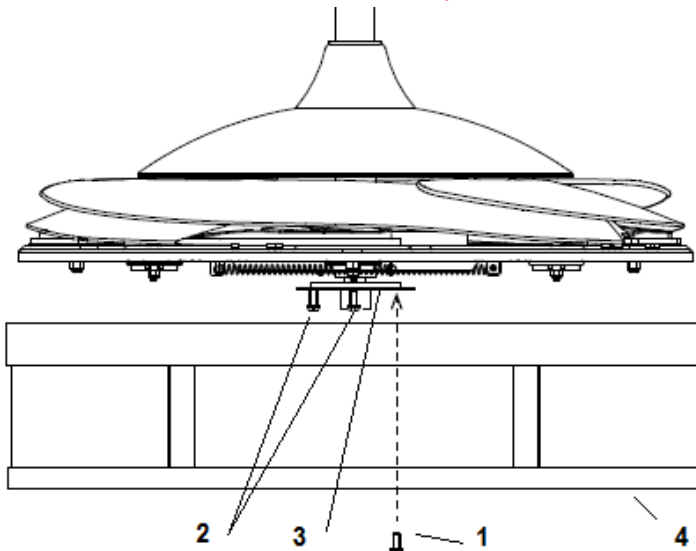

Fig. 6
1. Loosen the screw (1) from the lamp shade bracket (3). Align the two slot screws (2) with the keyhole slots of the lamp shade (4). Fig.6